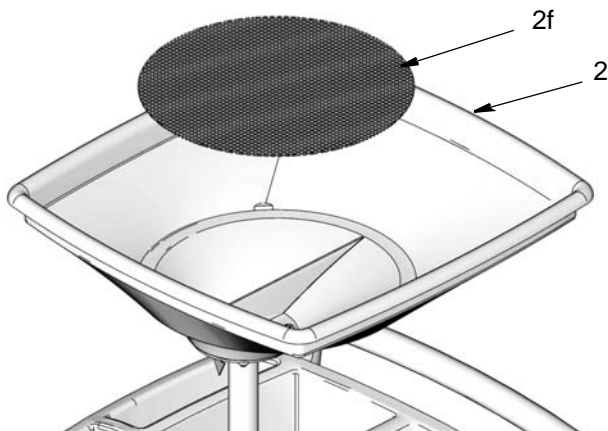

FIG. 2
2. The strainer (2f) is shipped loose and must be installed in funnel assembly (2) prior to use (FIG. 2).
- Make sure strainer (2f) (FIG. 2, page 4) is clean and obstruction free prior to use.